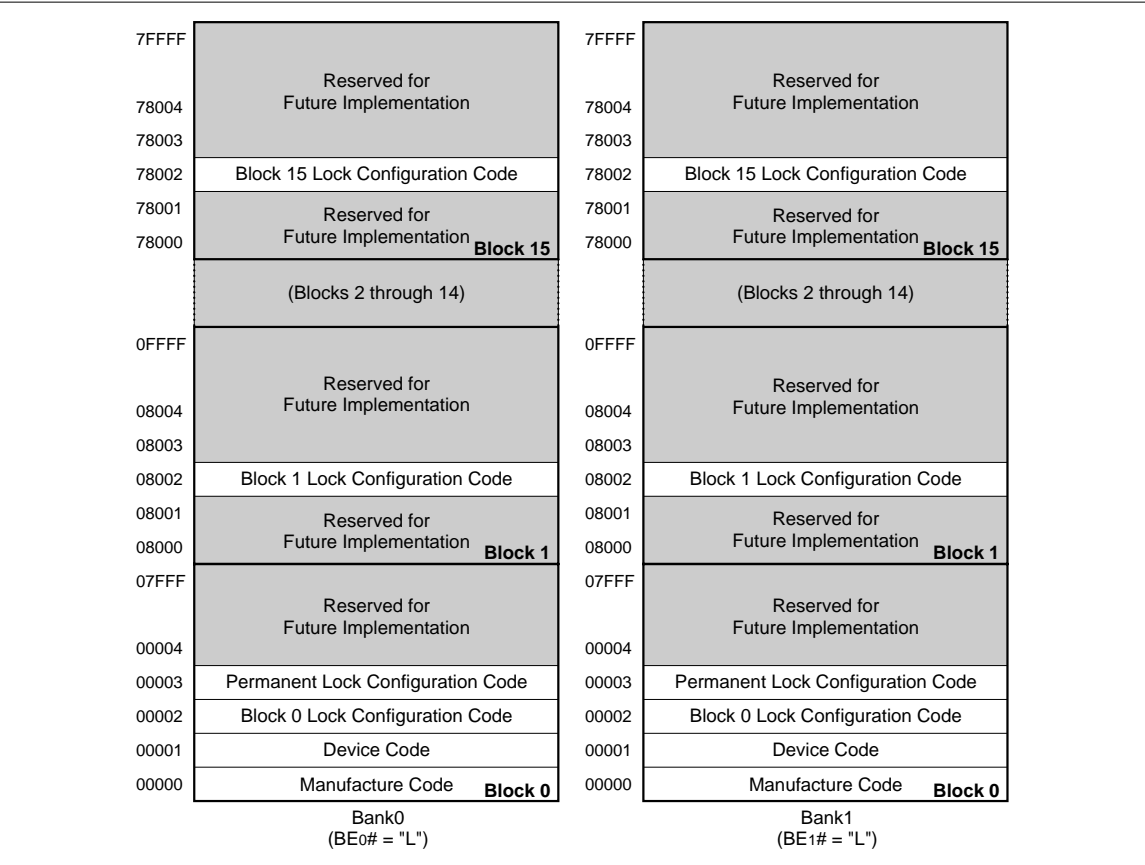

Fig. 2 Device Identifier Code Memory Map
The read identifier codes operation outputs the manufacture code, device code, block lock configuration codes for each block, and the permanent lock configuration code (see Fig. 2). Using the manufacture and device codes, the system CPU can automatically match the device with its proper algorithms. The block lock and permanent lock configuration codes identify locked and unlocked blocks and permanent bank lock-bit setting.
IA = Identifier code address : see **Fig. 2**.
The identifier code operation is initiated by writing the Read Identifier Codes command. Following the command write, read cycles from addresses shown in **Fig. 2** retrieve the manufacture, device, block lock configuration and permanent lock configuration codes (see **Table 4** for identifier code values). To terminate the operation, write another valid command. Like the Read Array command, the Read Identifier Codes command functions independently of the VPP voltage and RP# can be V_{IH} or V_{HH}. Following the Read Identifier Codes command, the following information can be read :
1. X selects the specific block lock configuration code to be read. See **Fig. 2** for the device identifier code memory map.